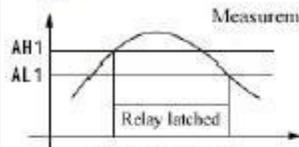

Fig 1 Upper limited
2. Set AH1>AL1(AH2>AL2), when measured value \geq AH1, the relay will latch; when AL1 \geq measured value, relay unlatched. This is for 'upper limited' configuration. See Fig 1.